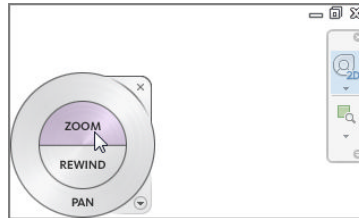

FIGURE 1.35: You can use the steering wheel to navigate through a view.
1. Go back to Floor Plan Level 1, and pick the steering wheel icon from the Navigation bar, as shown in Figure 1.35.
2. When the steering wheel is in the view window (as shown in Figure 1.35), left-click and hold Zoom. You can now zoom in and out.